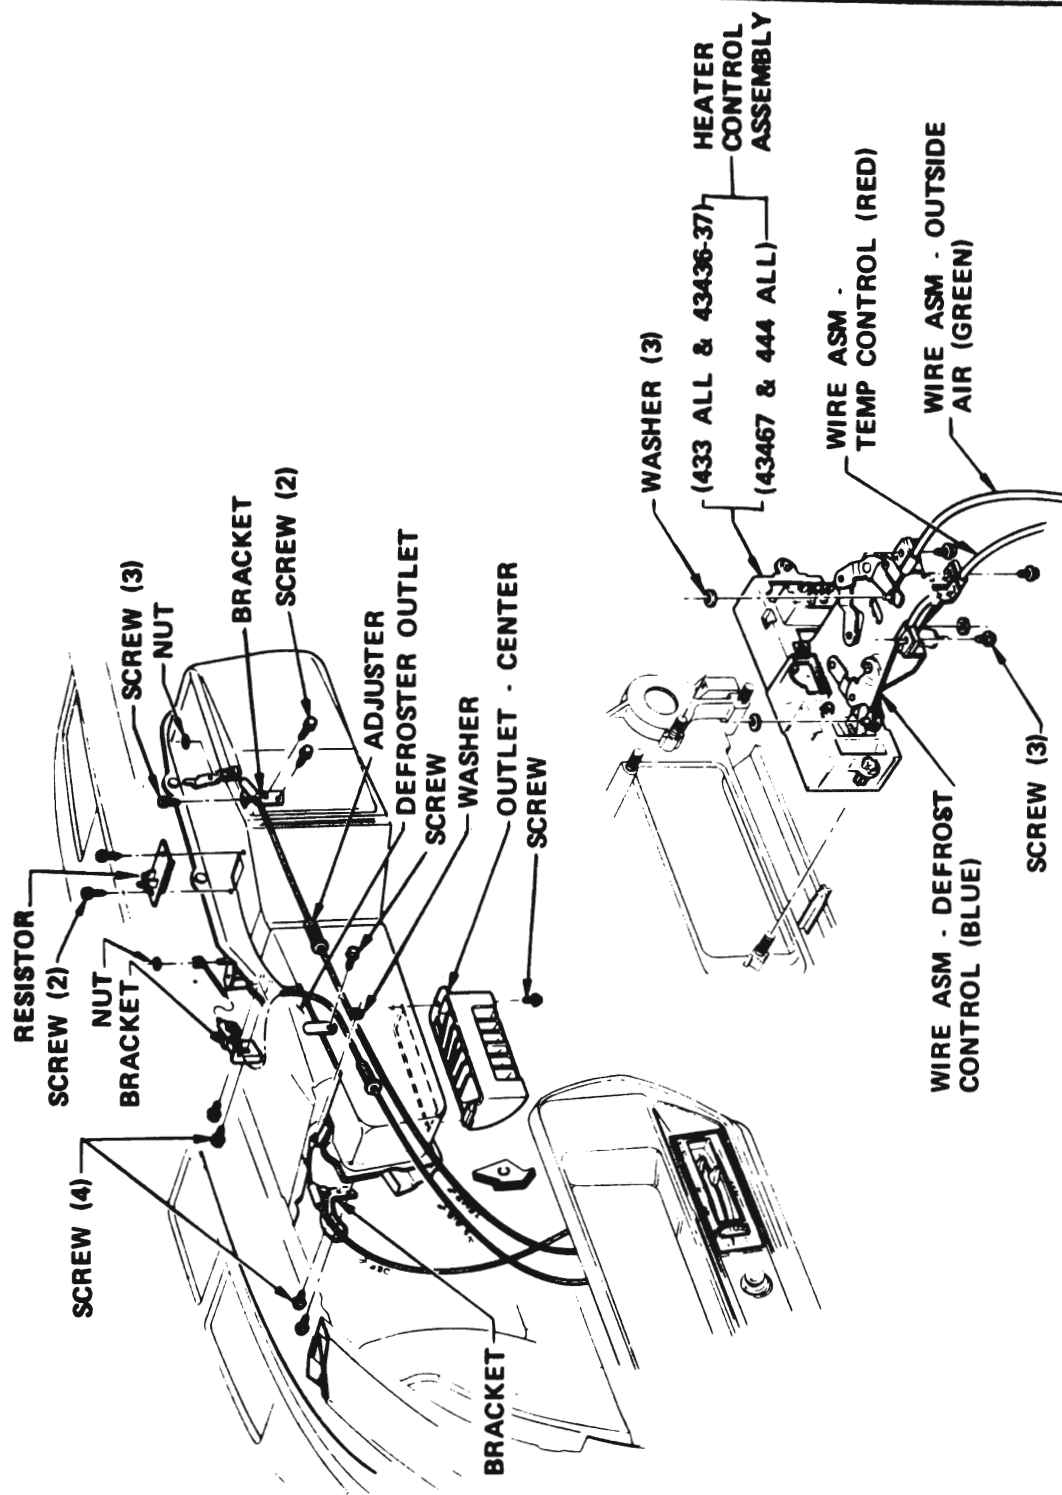

Figure 12-1 Heater Control Assembly
The heater system is an air mix type system in which outside air is heated and then mixed in varying amounts with cooler outside air to attain the desired air temperature. The system consists basically of three parts: (1) the blower and air inlet assembly, (2) the heater assembly and (3) the heater control assembly (see Figure 12-1). The operation of the system is as follows:
3. Heater Control Assembly - The heater control assembly (see Figure 12-1) consists of three controls, namely the TEMPERATURE lever, outside air-HEATER lever, and FAN switch.
To adjust, position the TEMPERATURE lever to the COOL position and rotate the control cable adjuster nut until equal springback is obtained at both ends of lever travel. See Figure 12-1.
To adjust, position the TEMPERATURE lever fully to the left, then position the HEATER lever to the OFF position and rotate the control cable adjuster nut until HEATER lever aligns with TEMPERATURE lever. See Figure 12-1.
3. Disconnect control cables from lever of defroster door and outside air inlet door on heater assembly. See Figure 12-1.
7. Connect control cables to lever of defroster door and outside air inlet door on heater assembly. See Figure 12-1.